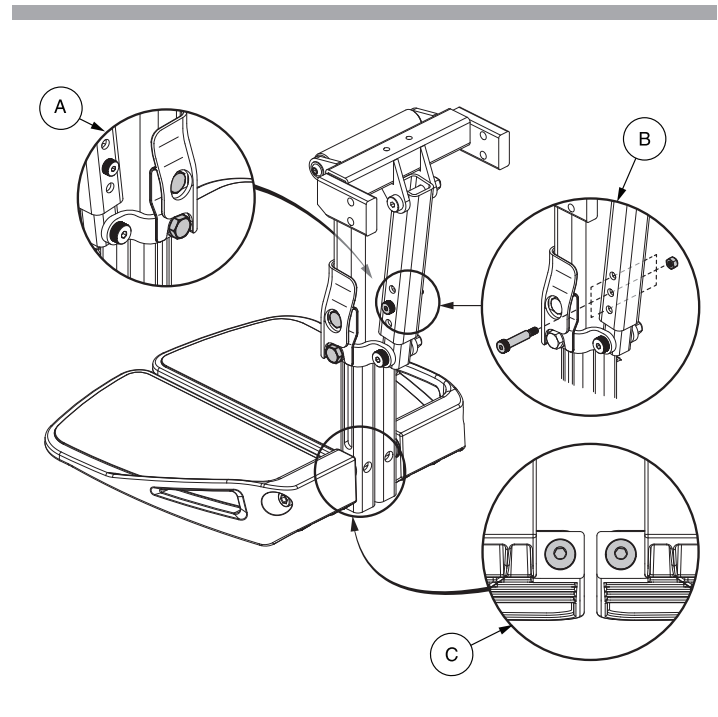

Figure 10. Basic Center Mount Foot Platform
The Basic Center Mount Foot Platform is installed directly onto the seat to accommodate users who require power positioning but prefer a foot platform. The Basic Center Mount Foot Platform is height adjustable and angle adjustable. Each adjustment requires tools. **See figure 10.**
3. Line up the adjustment holes and reinstall the hardware. **See figure 10.**
4. Repeat on other side if necessary. **See figure 10.**
2. Turn the screw to raise or lower the footplate angle. **See figure 10.**